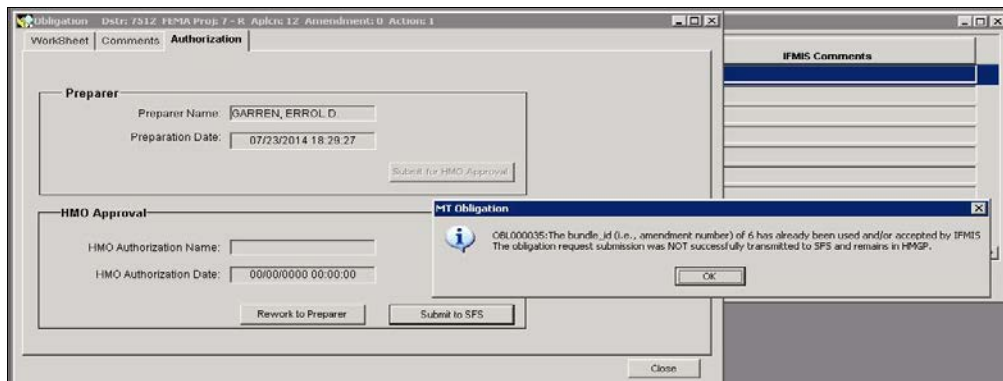

Figure 10-58: Obligation not submitted message due to previous obligation Status at SFS
- d. It is required that a previously-submitted obligation be status at IFMIS before a subsequent Obligation can be submitted. Any attempt to submit another obligation prior to the previous obligation being moved from AT SFS to AT IFMIS will result in a message similar or identical to the one below. It is anticipated this process will take up to 3 minutes on average but may take longer in certain extraordinary circumstances, such as high volume or server issues. (Figure 10-58).